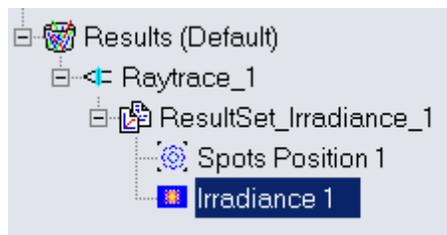

Figure 84 ResultSet node on the Optics Manager, listing Spots Position and Irradiance
- 7 Click the Optics Manager tab on the FeatureManager to view the node for each requested analysis. Each **ResultSet** is listed under the **Raytrace_*** node. See Figure 84.